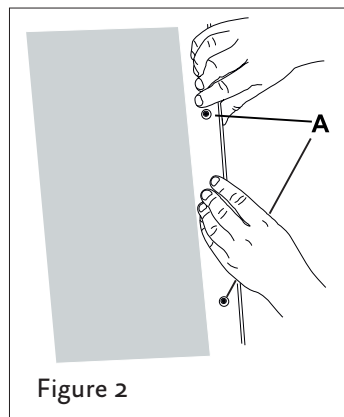

Figure 2
- The holes in the long side must match the holes in the dishwasher. (See A in Figure 2 below.)